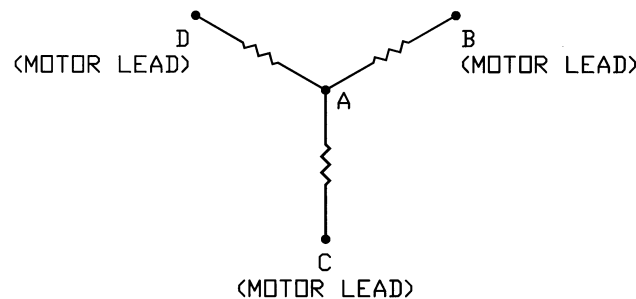

Figure 6.0 Three resistors of same value
5. Connect the three motor leads to a resistor network as per figure 6.0. All three resistors should be the same value.